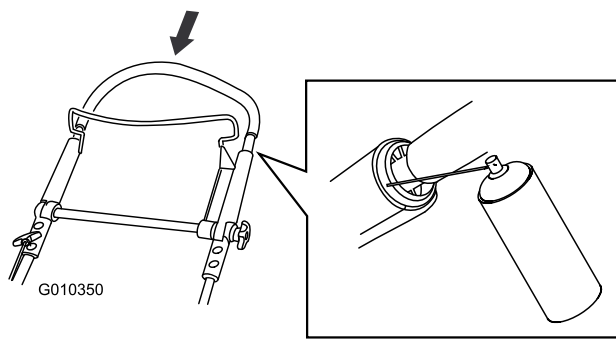

Figure 42
2. Push the upper handle fully down and spray the inner plastic surface of the outer handle (Figure 42).